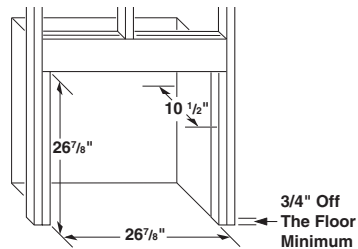

Figure 8 - Rough Opening for Installing in Wall
1. Frame in rough opening. Use dimensions shown in Figure 8, page 11, for the rough opening.